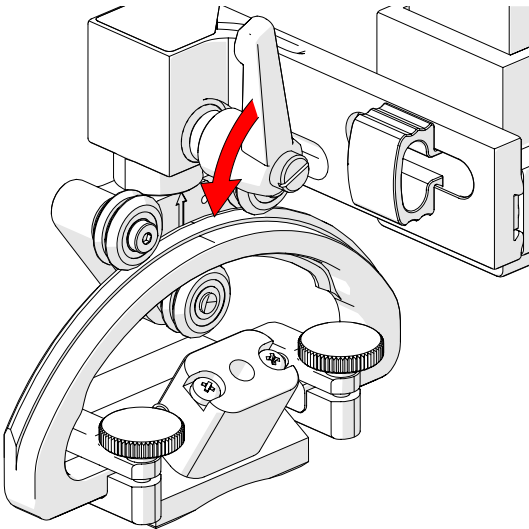

Fig. 54 - Loosen ratchet lever
1. Loosen the ratchet lever above the yoke (Fig. 54).